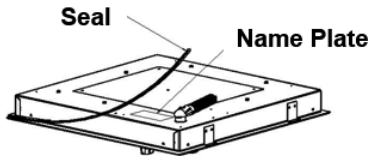

Fig. 5
- b. Turn the cooktop over and correctly position the seal under the edge of the cooktop so that the outer side of the seal aligns with the outer peripheral edge of the cooktop (refer to **Fig. 5**). The ends of the strips must fit together without overlapping.